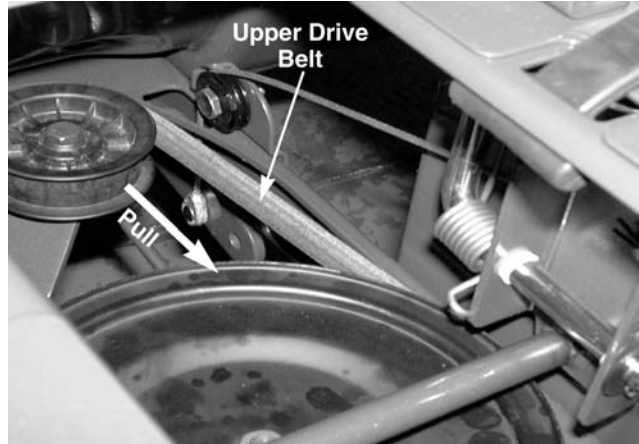

Figure 9-20
4. Pull the transmission idler pulley towards the transmission and release the upper drive belt. See Figure 9-20.